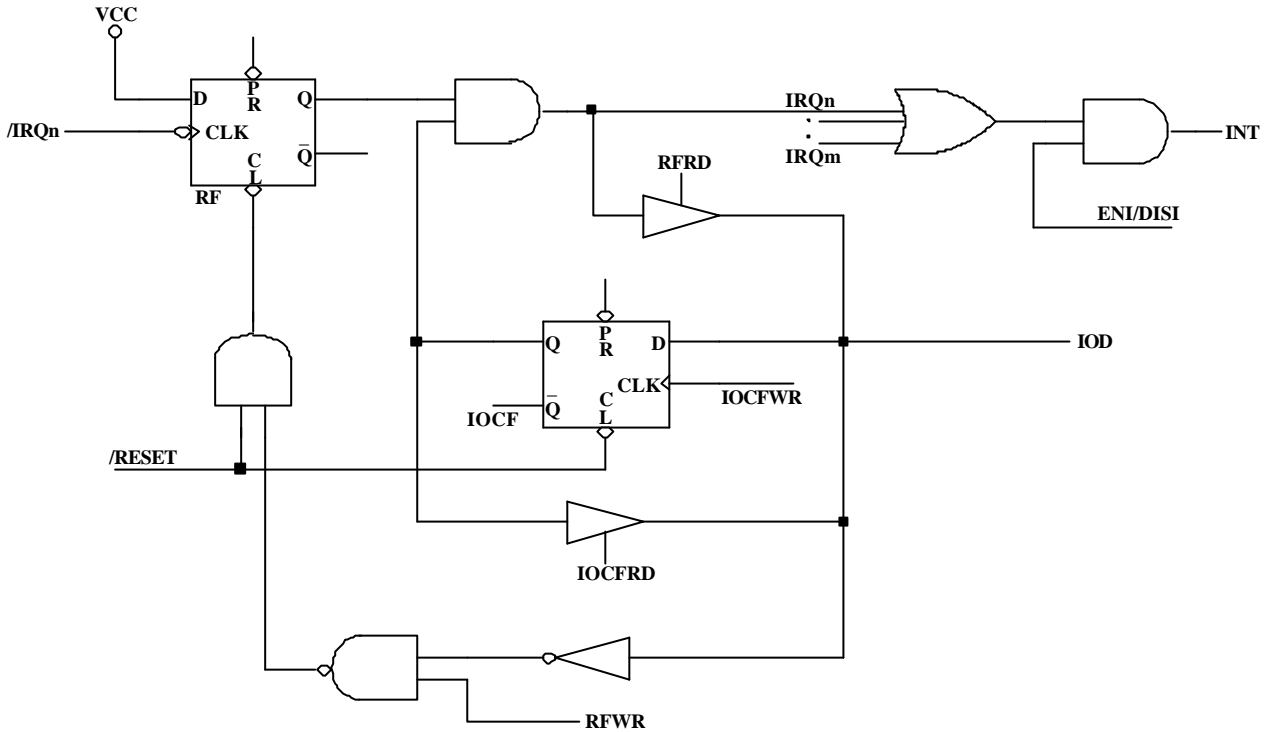

Fig. 12 Interrupt input circuit
The flag (except ICIF0 bit) in the Interrupt Status Register (RF) is set regardless of the status of its mask bit or the execution of ENI. Note that the outcome of RF will be the logic AND of RF and IOCF0 (refer to Fig.12), The RETI instruction ends the interrupt routine and enables the global interrupt (the execution of ENI).